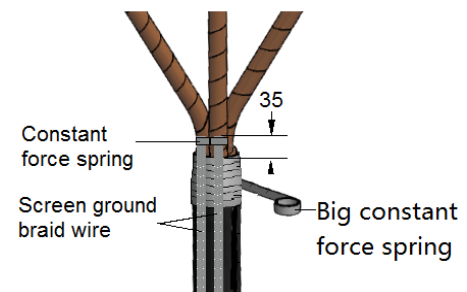

Figure 3
2. As figure 3 shown, securing three ground braid wires on the each of the bottom of cable copper screen with the three smallest constant force springs separately, wrap several layers of PVC tape on each of the three smallest constant force springs. Polish the steel armour, gather together the three ground braid wires on the polished area of armour, secure them with the biggest constant force spring. Wrap several layers of filling tape over the steel armour and inner sheath, and cover the filling tape with several layers PVC tape